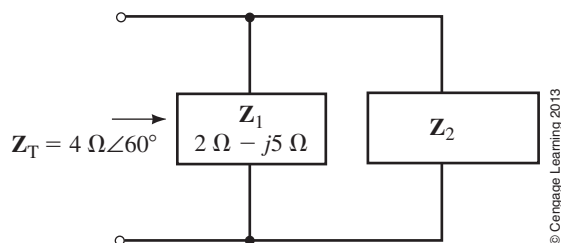

FIGURE 18-107
37. Determine the impedance, Z_2 , that will result in the total impedance shown in Figure 18-107.